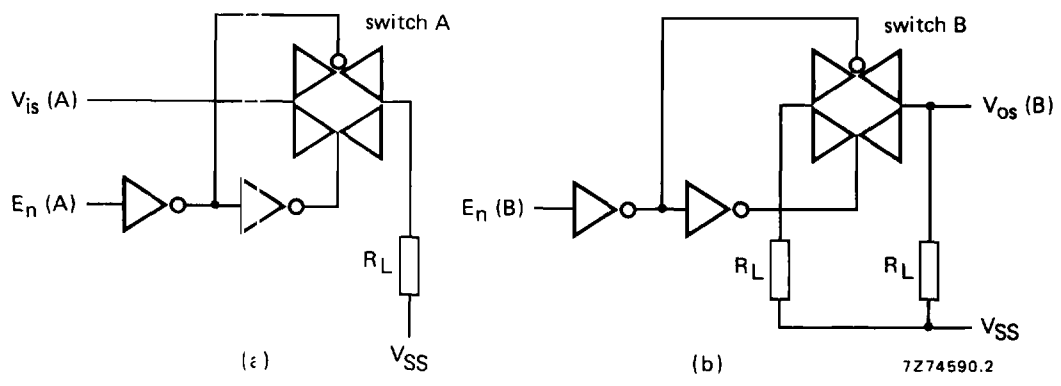

Fig. 8.
$$20 \log \frac{V_{os} (B)}{V_{is} (A)} = -50\text{ dB}; E_n (A) = V_{SS}; E_n (B) = V_{DD}; \text{ see Fig. 8.}$$